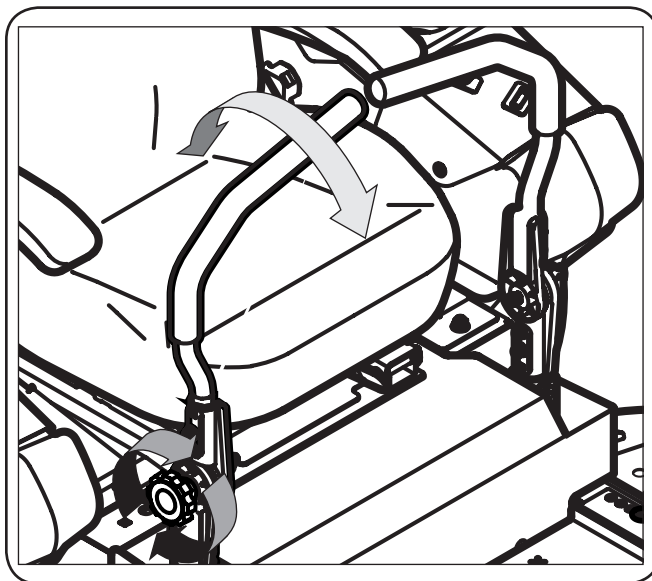

Figure 3-9
1. Loosen the control lever knob to unlock the drive control levers. See Figure 3-9.